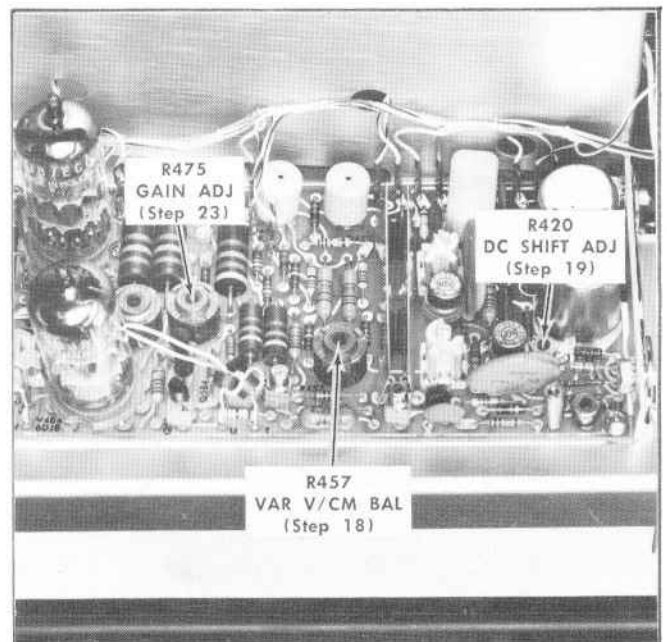

Fig. 6-18. Location of vertical amplifier adjustments (steps 18, 19 and 23).
- f. Set the Variable V/CM Balance adjustment R457 (see Fig. 6-18) for no vertical shift of the trace when the VARIABLE SENSITIVITY control is rotated through its range.
- c. While switching the SENSITIVITY switch back and forth between .2 and .5 VOLTS PER CM, set the DC Shift adjustment R420 (see Fig. 6-18) for minimum drift when switching to the .5 VOLTS PER CM position.
①
d. Set both Vertical Gain Adjustments R475 (see Fig. 6-18) for exactly 5 centimeters of deflection for each beam.